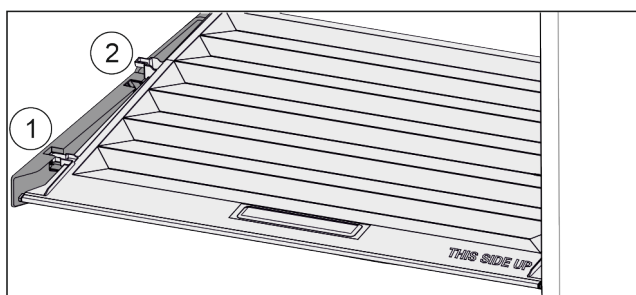

Fig. 31
- Pull the lid up at the front to the opening in the retaining parts Fig. 31 (1).
- Lift from the back and pull it up and out Fig. 31 (2).